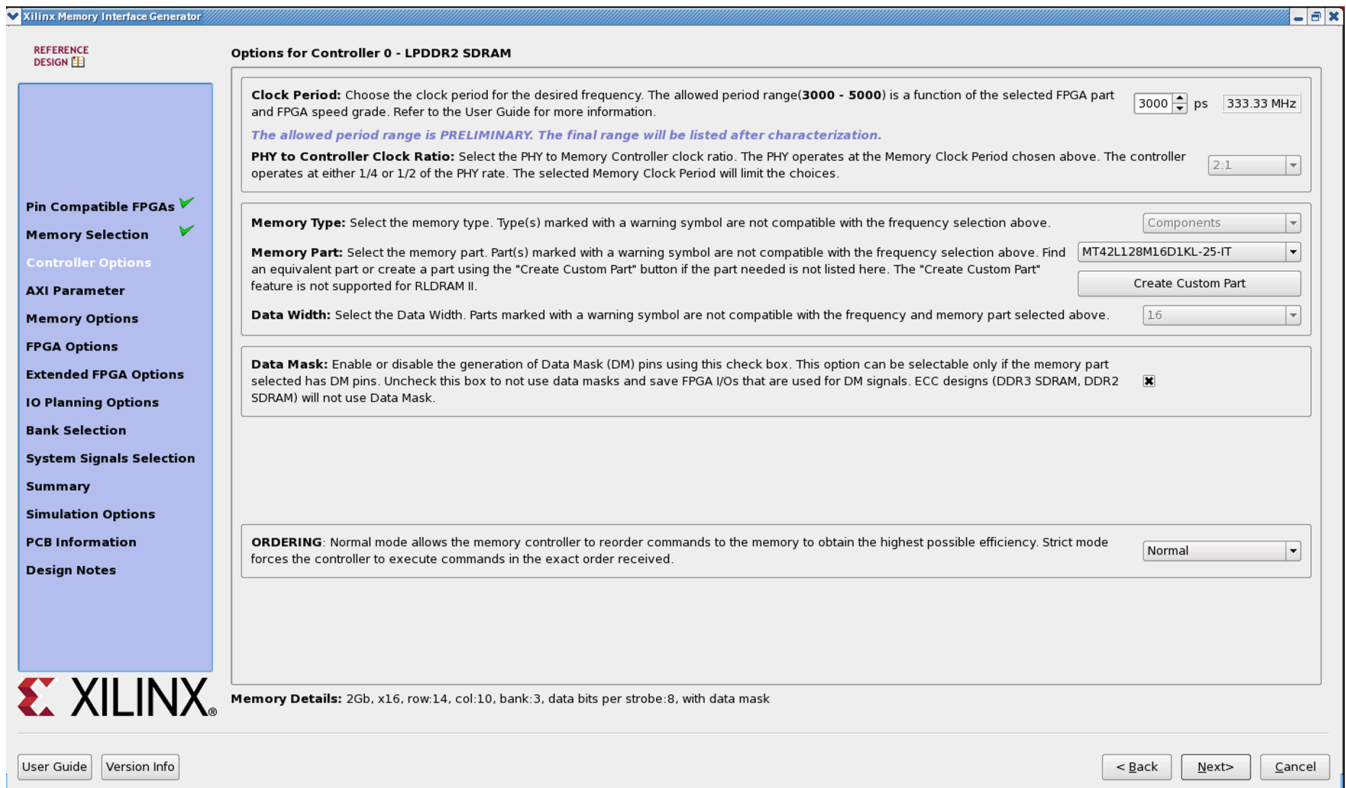

Figure 4-17: Controller Options Page
This page shows the various controller options that can be selected (Figure 4-17).
- **Memory Details** – The bottom of the **Controller Options** page (Figure 4-17, page 529) displays the details for the selected memory configuration (Figure 4-18).